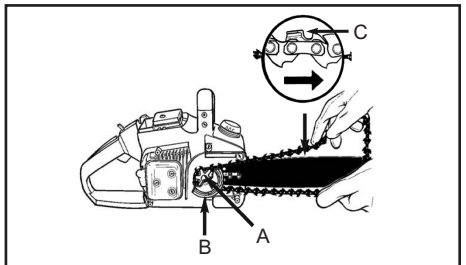

Fig. 4
5. Lay the chain around the sprocket (Fig.4-A)
NOTE: The cutting edge of the chain must face in the direction indicated. (Fig.4-C)